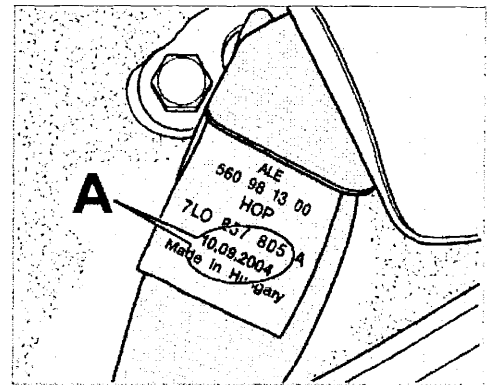

Figure 1
3. Read the date of production on the data sticker on the three-point belt close to the lower fastening screw for the left outer three-point belt (Figure 1, Item A).
Example in Figure 1: 10.09.2004 = day.month.year
6. Read the date of production on the data sticker on the three-point belt close to the lower fastening screw for the right outer three-point belt (Figure 1, Item A).